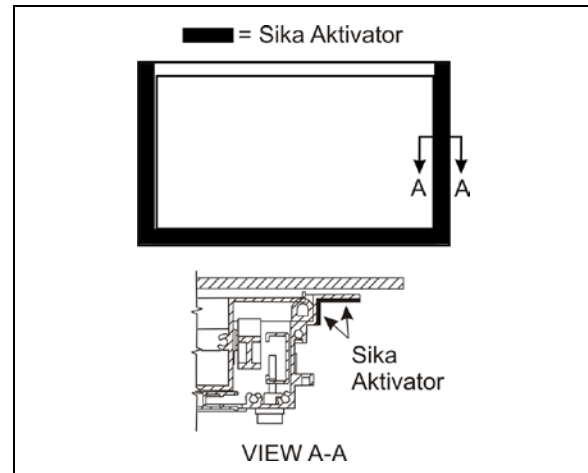

FIGURE 65 : AWNING WINDOW – SIKA AKTIVATOR
- Apply Sika Aktivator as per FIGURE 65.